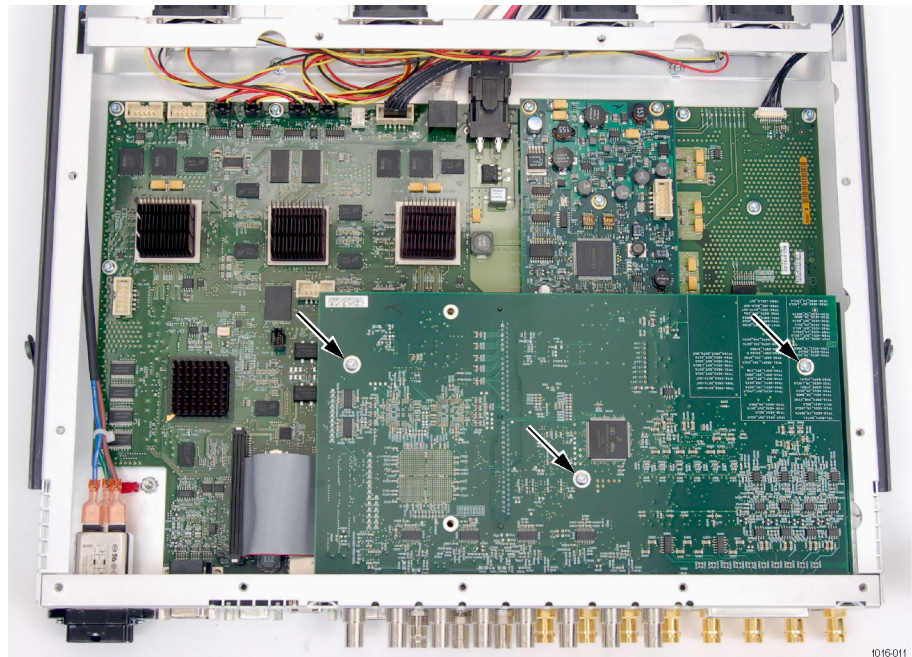

Figure 15: Audio board screws
7. Secure the audio board to the three mounting posts with the three T-15 screws from the kit. Tighten firmly, but not excessively. (See Figure 15.)